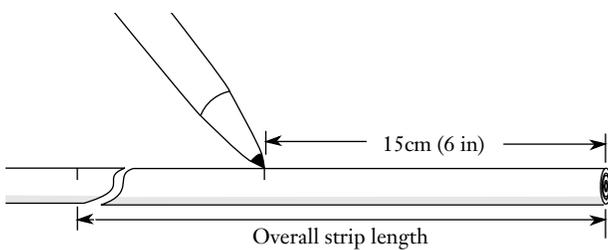

Figure 2
*Add 15 cm (6 in.) to the overall strip length in case fibers are damaged during the initial jacket removal. Use a measuring tape and a felt tip pen to measure and mark the overall strip length and a point 15 cm (6 in) from the end of the cable (Figure 2).*